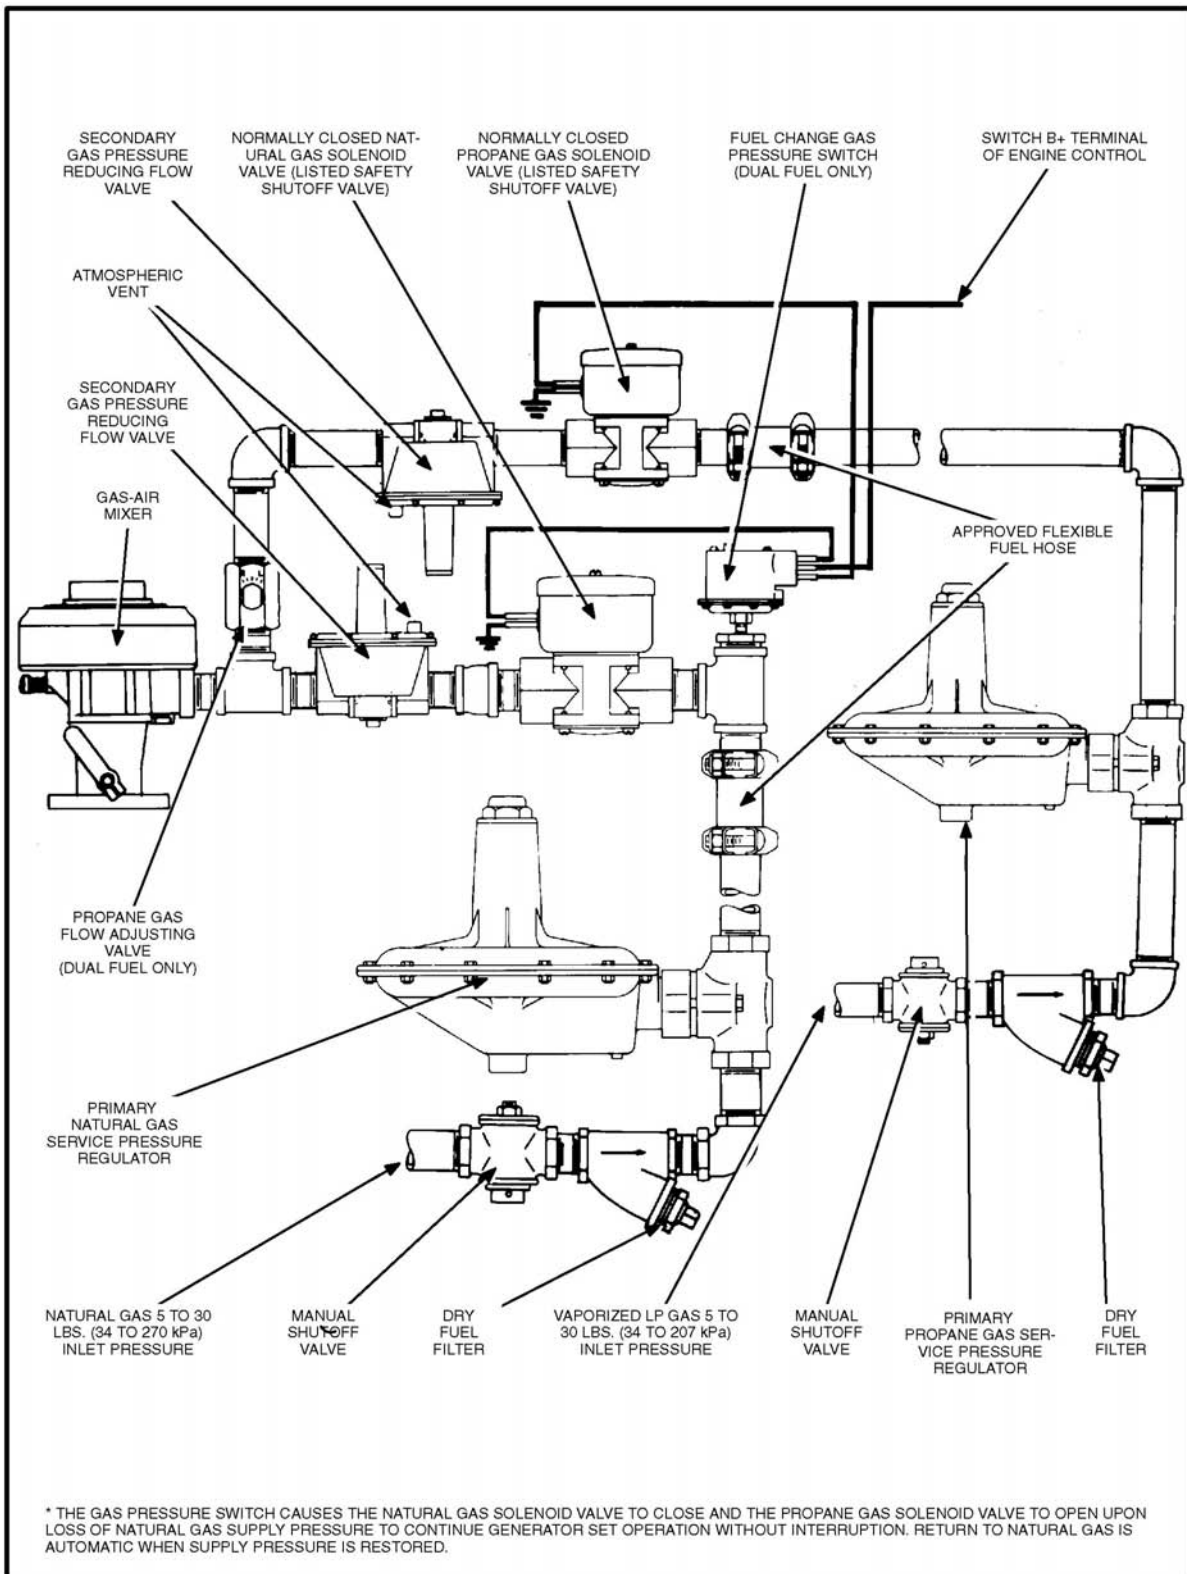

FIGURE 116. TYPICAL GASEOUS FUEL SYSTEM
Figure 116 on page 220 illustrates the typical gas line components in an automatic-transfer, dual-fuel system (natural gas and LPG). Single fuel systems (natural gas or LPG) use the noted portions of the components on this drawing. Not shown is the LPG vaporizer supplied with Cummins Power Generation generator sets equipped for liquid withdrawal of LPG (engine-mounted on outdoor sets only). Service pressure regulators, dry gas filters and manual shutoff valves are typically provided by the installer but are available as accessories from Cummins Power Generation.
- A dry fuel filter should be installed in each line as shown in Figure 116 on page 220 to protect the sensitive pressure regulating components and orifices downstream from harmful foreign substances carried along in the gas stream (rust, scale, etc.).